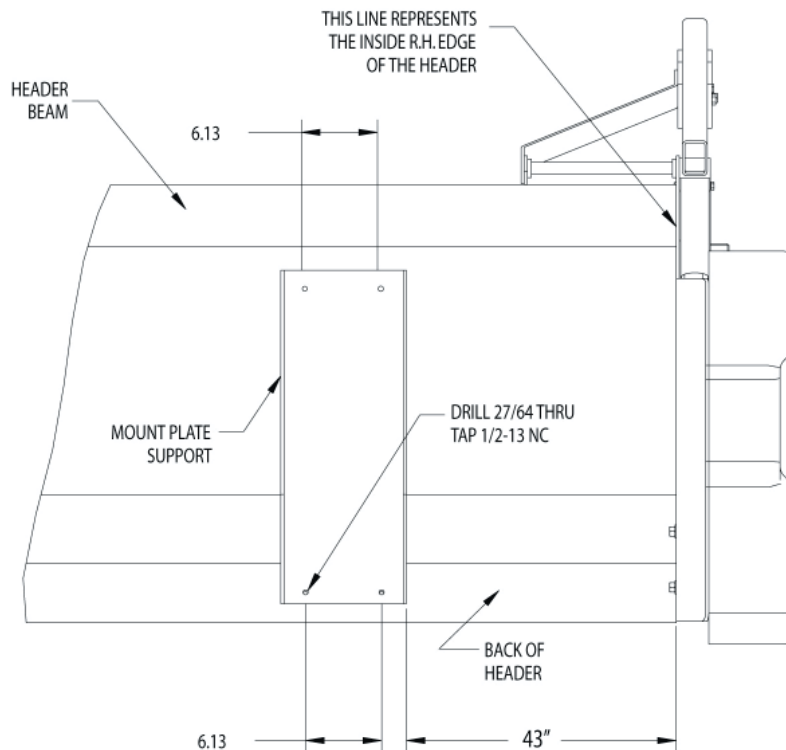

Figure 6, Mount support plate location
1. Line up the gearbox mount bracket 43" from the inside RH edge of the header as shown in Figure 6. The support plate mounts below the top header beam. Mark the four bracket holes on the header.